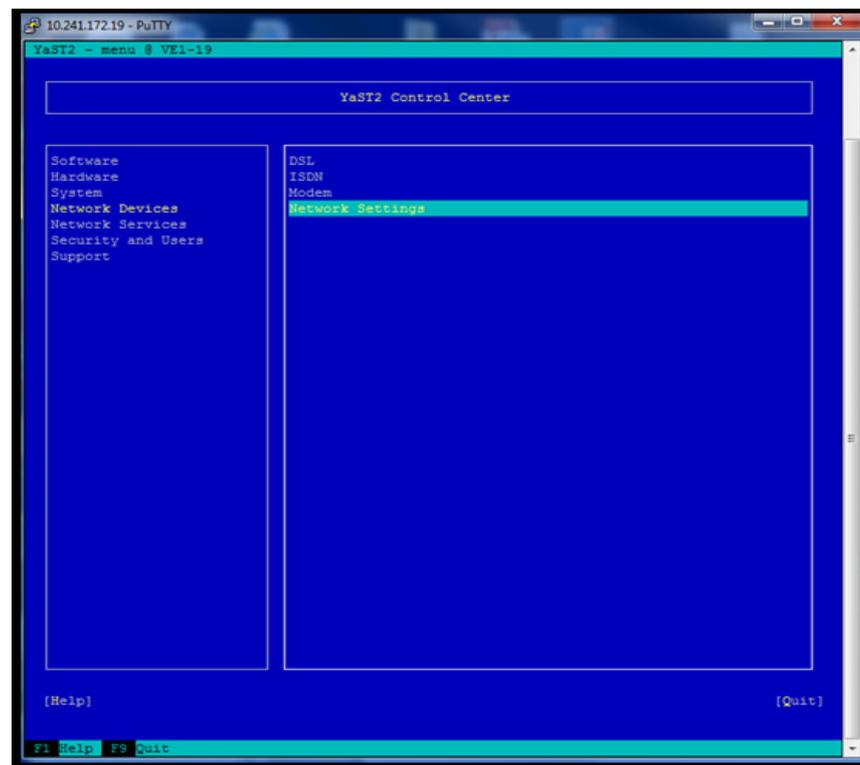

Figure 150 Selecting Network Settings
4. Use the **Tab** key to navigate to the right-side pane, and then select **Network Settings**, as shown in Figure 150 on page 123.